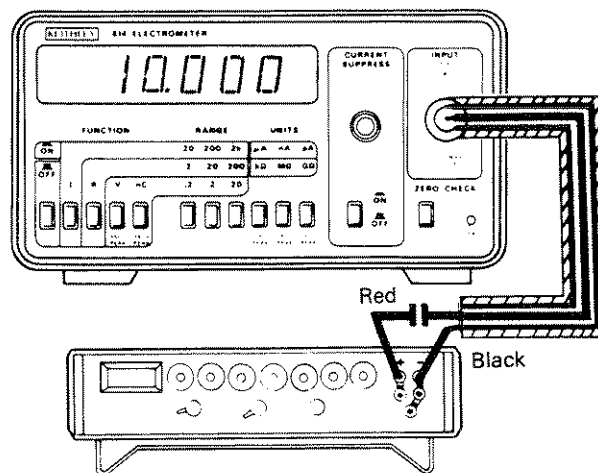

Figure 4-5. Charge Verification
2. Connect the 1000pF capacitor, the calibrator, and the Model 614 as shown in Figure 4-5.